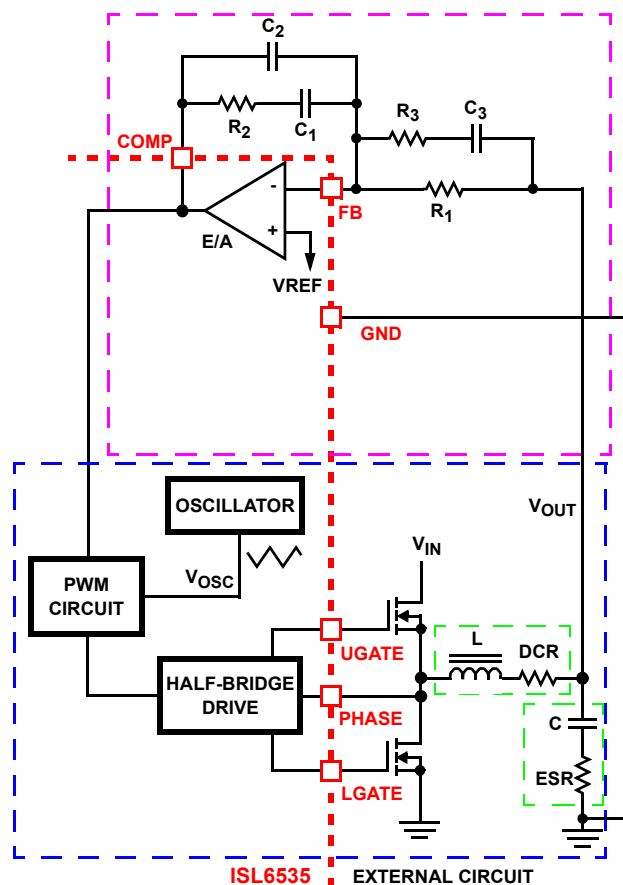

FIGURE 10. VOLTAGE-MODE BUCK CONVERTER COMPENSATION DESIGN
Figure 10 highlights the voltage-mode control loop for a synchronous-rectified buck converter. The output voltage is regulated to the reference voltage level. The error amplifier output is compared with the oscillator triangle wave to provide a pulse-width modulated wave with an amplitude of  $V_{IN}$  at the PHASE node. The PWM wave is smoothed by the output filter. The output filter capacitor bank's equivalent series resistance is represented by the series resistor ESR.
1. Select a value for  $R_1$  (1k $\Omega$  to 10k $\Omega$ , typically). Calculate value for  $R_2$  for desired converter bandwidth ( $F_0$ ). If setting the output voltage to be equal to the reference set voltage, as shown in Figure 10, the design procedure can be followed as presented.